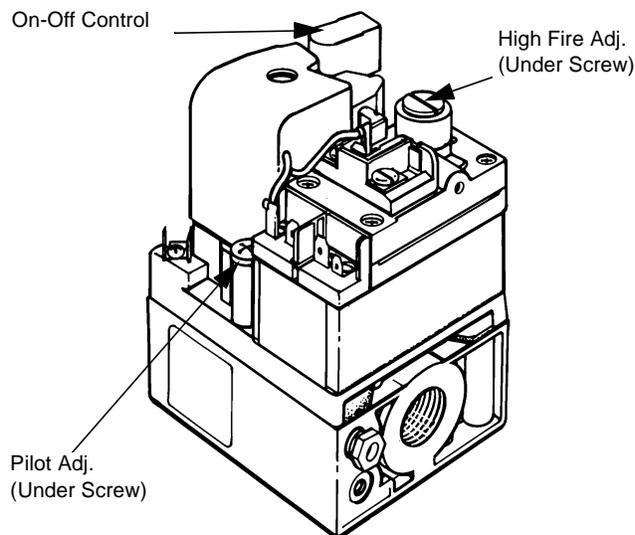

FIGURE 16 : TYPICAL GAS VALVE
Small adjustments to the high-fire gas flow may be made by turning the pressure regulator adjusting screw on the automatic gas valve. Refer to Figure 16.
The pilot flame should envelope the end of the flame sensor. Refer to Figure 16. To adjust pilot flame, (1) remove pilot adjustment cover screw, (2) increase or decrease the clearance for air to the desired level, (3) be sure to replace cover screw after adjustment to prevent possible gas leakage.